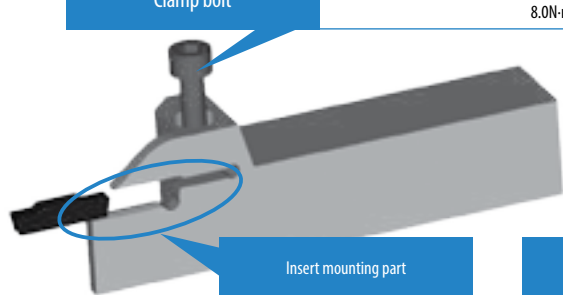

Fig. 1
2. Put the insert into the toolholder and push it makes contact with the back end of toolholder's surface (Ref. to Fig. 1 and 2).